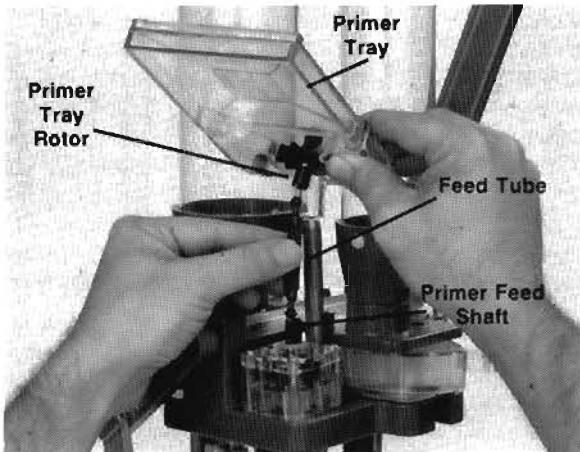

Fig. 9
**Figure 9** - Install the primer tray so the guide aligns with the slot in the feed tube. At the same time, align the Primer Feed Ball Joint Shaft to slide into the primer tray rotor.